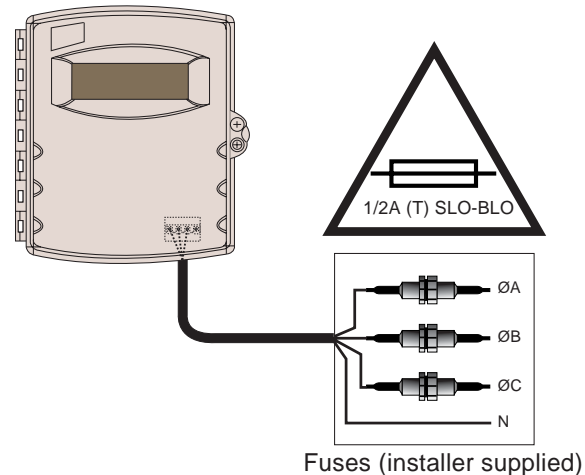

Figure 5: Fuse installation
5. Mount fuse block and fuses (Figure 5).